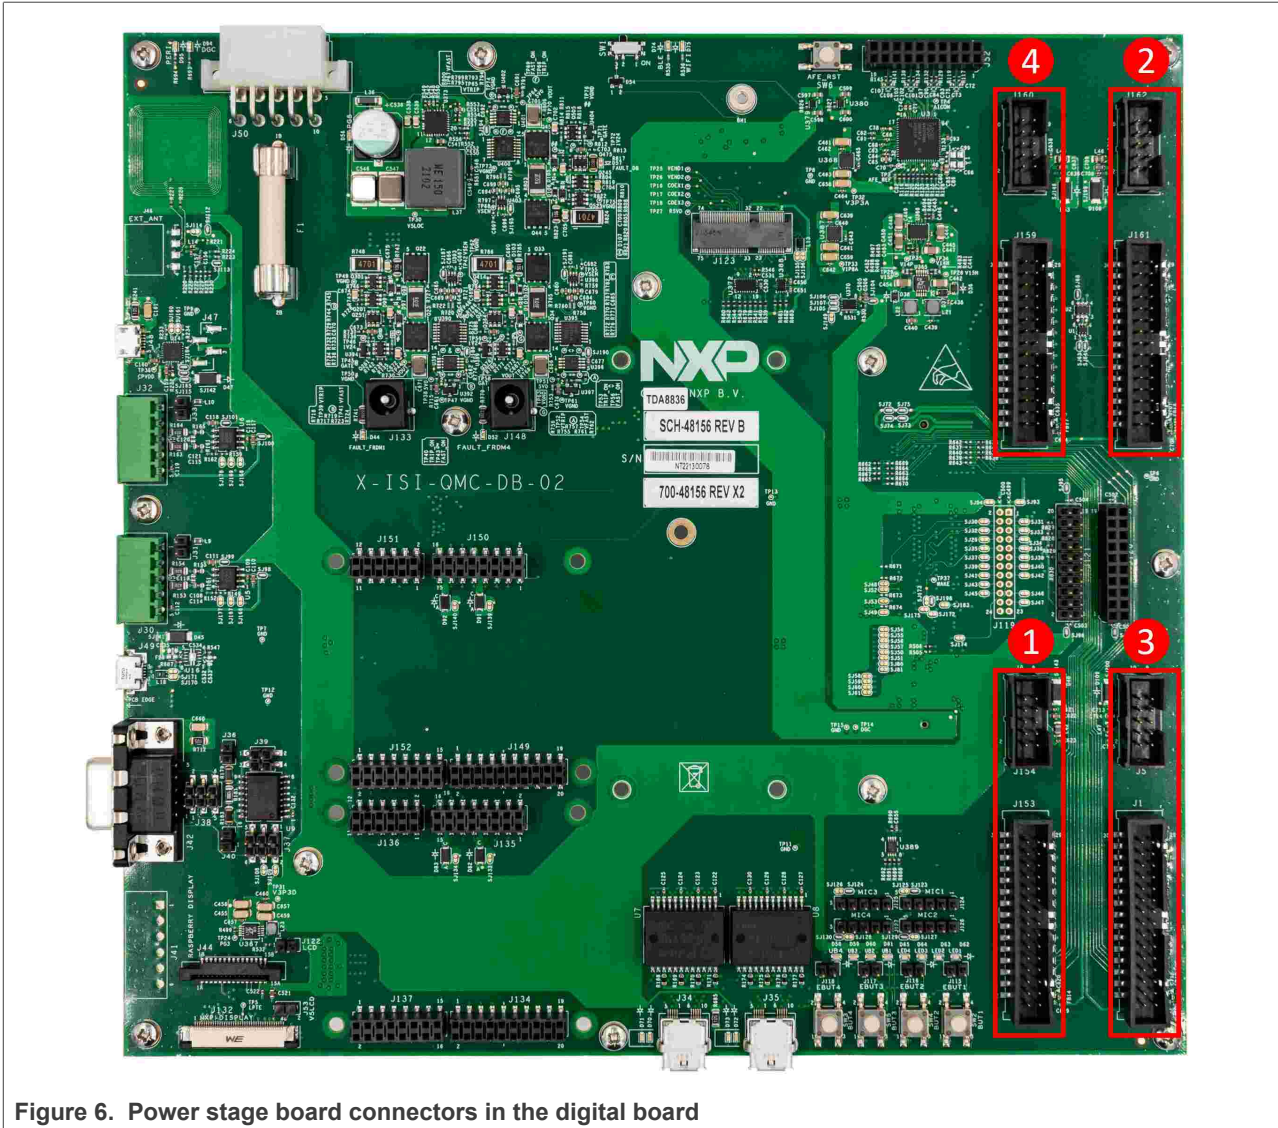

Figure 6. Power stage board connectors in the digital board
1. The digital board provides four pairs of 30-pin and 10-pin connectors. The 30-pin connectors (*J1*, *J153*, *J159*, *J161*) are used for signal interconnection between the digital board and the power stage boards. The 10-pin connectors (*J5*, *J154*, *J160*, *J162*) are used to supply the digital board and the daughter card with power provided by the power stage boards. Connectors are shown in Figure 6: